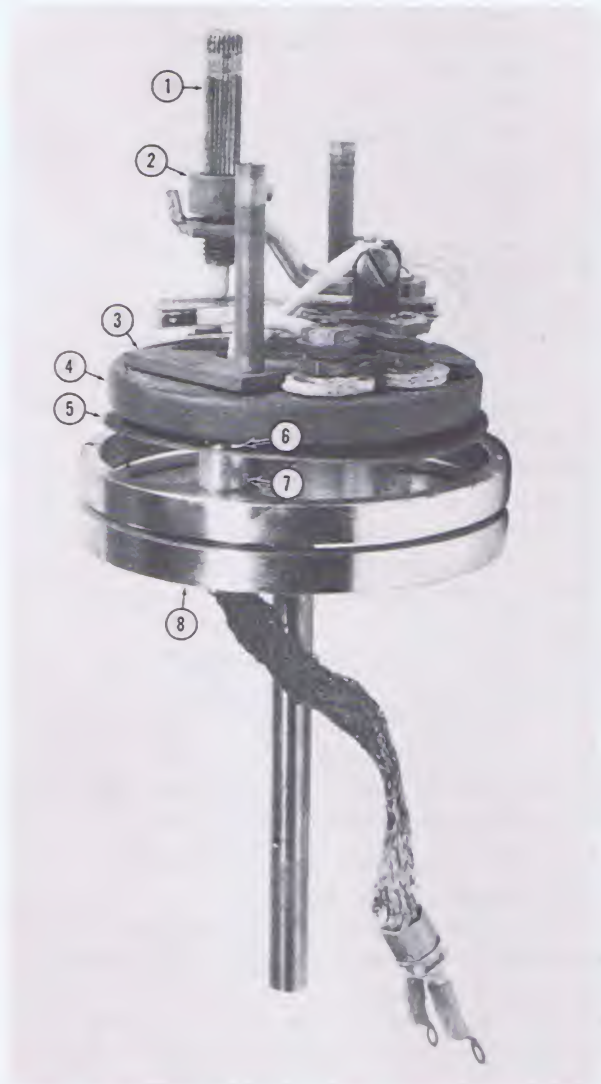

FIGURE 82 330 Heating and Thermostat Assembly
53. Heating Assembly (330) (Figure 82)